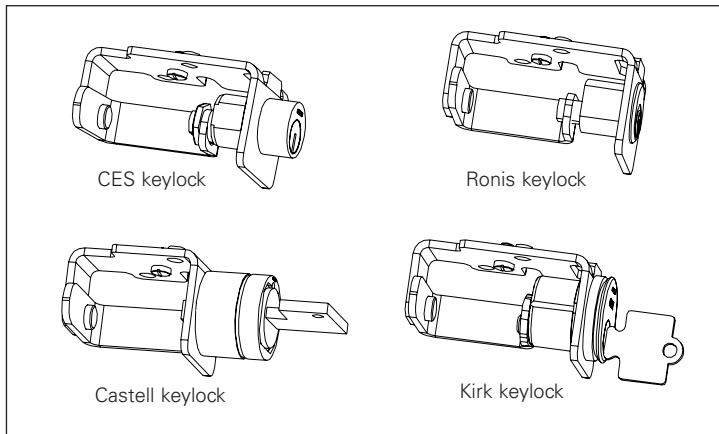
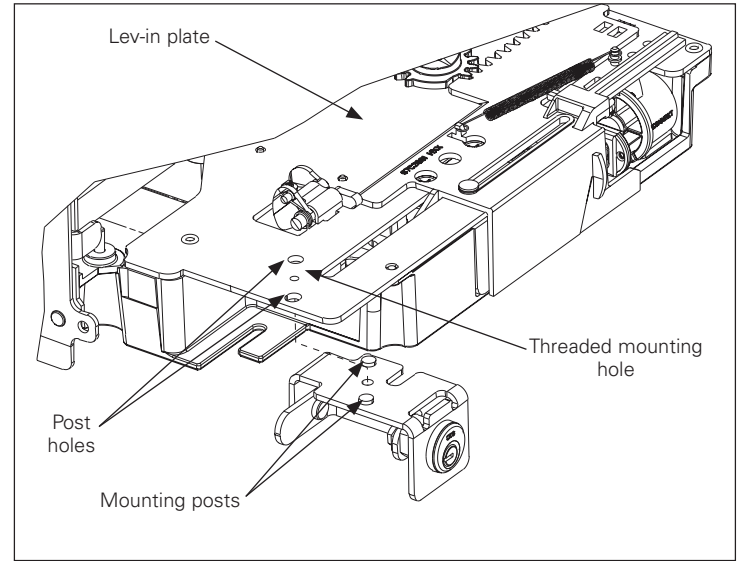

Figure 7. Step 5
Figure 8. Step 5.
Step 5: Turn the actuator 90 degrees using the key (Figure 7), and align the posts that are positioned on top of the mounting bracket with the holes on the (Figure 8 and 9) underside of the Lev-in plate. Once properly positioned, secure it in place with the mounting screw (D) from the bottom. Torque screw to 30 in.-lbs (3.4 N-m). Next, install the nylon insert hex locknut on the screw from the top of the Lev-in plate. Torque the nut to 30 in.-lbs. (3.4 N-m).
Note: Actuator (E) has to be positioned at 90 degrees (horizontal position) (Figure 7) when removing or replacing cover.
Step 7: Replace the front cover, and secure it in place with the mounting screws previously removed in Step 1. Remove the adhesive backing from the external protective ring (A), and press it onto the front cover over the key lock.